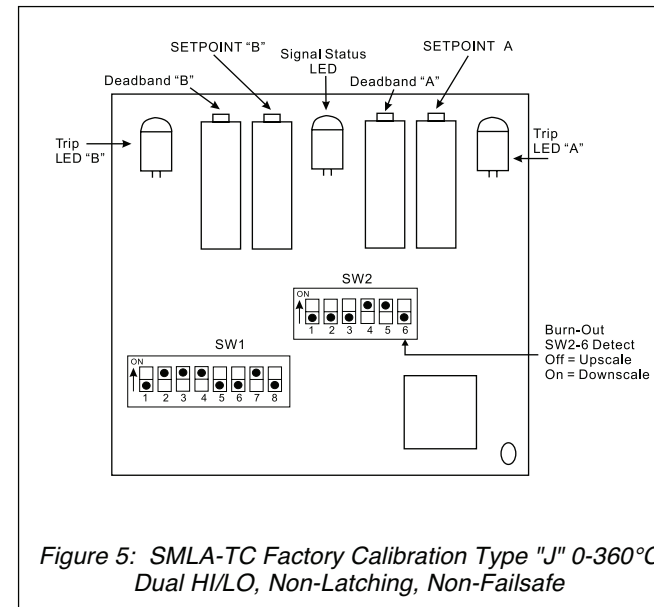

Figure 5: SMLA-TC Factory Calibration Type "J" 0-360°C Dual HI/LO, Non-Latching, Non-Failsafe
Refer to Figure 5 for switch locations.
2. Choose the desired upscale/downscale thermocouple burnout detection by setting position 6 of SW2. See Figure 5.